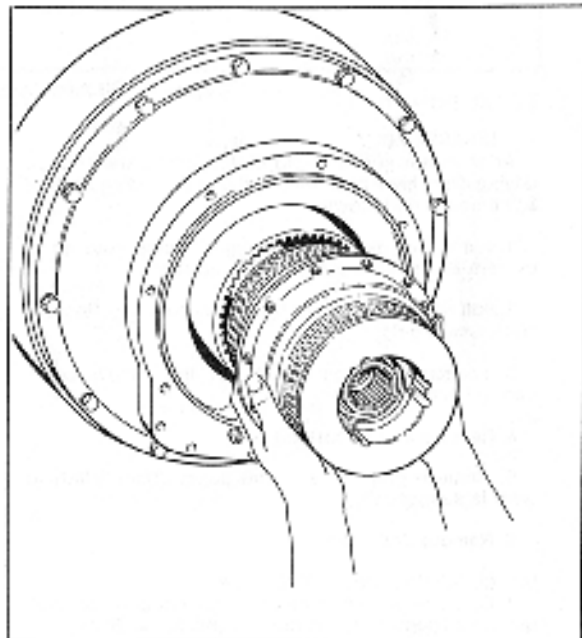

Figure 16. Removing clutch.
9. Remove clutch from forward driving drum (See figure 16)